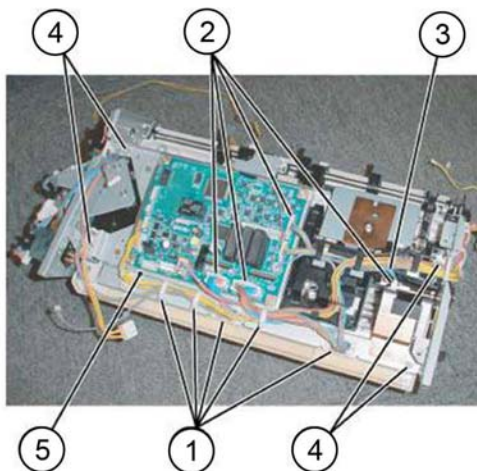

Figure 2 Bottom plate removal
7. Remove the bottom plate, **Figure 2**:
- a. Release the harness from the five clamps (1).
- b. Disconnect eight connectors (2).
- c. Release the harness from the retainer (3).
- d. Remove four screws (4).
- e. Remove the bottom plate (5).